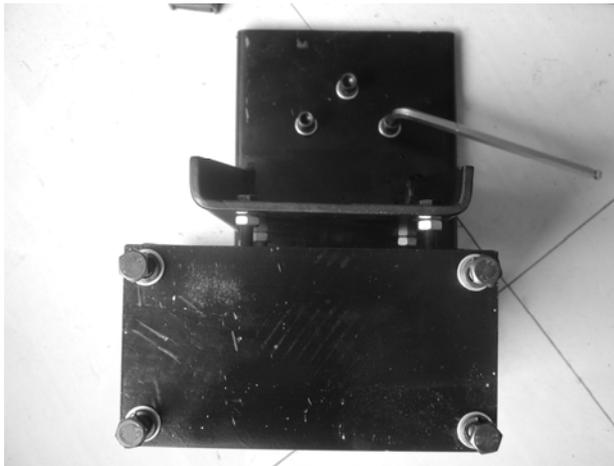

FIG 29
6.1.2 Detach the package of the PL330 assistant. Check the accessory according to the pack list. After confirmation, take out the base assembly (fig29) and install the screw and washer on it.